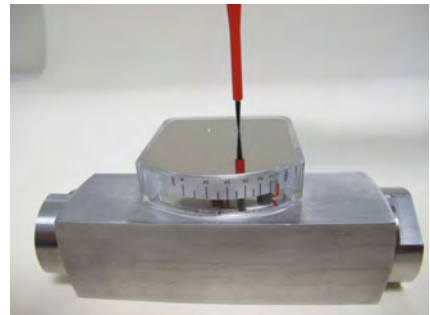

Fig. 66
25. ▶ Screw in and tighten the fixing screw of the display housing cover (Fig. 66), observing the proper torque ( *Chapter 11.1 "Tightening torque" on page 80*).